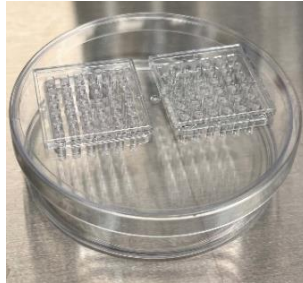

Figure 1. Hydration of the pillar plate surface in a 90 x 15 mm petri dish with 2 mL of sterile, distilled water to minimize air bubble entrapment.
5. Hydrate the surface of the pillar plate by inserting two 36PillarPlates in the 36PetriLid on a 90 x 15 mm petri dish containing 2 mL of sterile, distilled water and placing it in a 5% CO₂ incubator at 37°C for 20 - 30 minutes (**Fig. 1**).